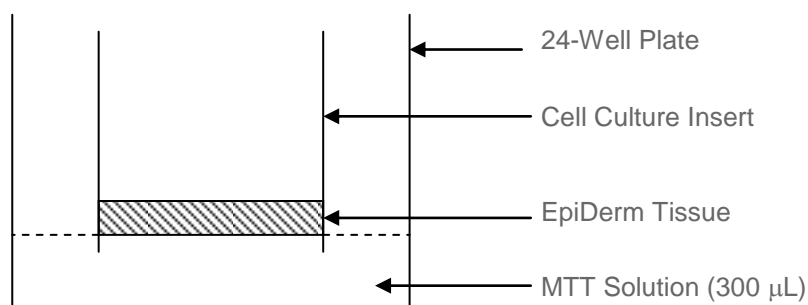

Figure 2: Incubation in MTT solution (37 °C, 95% rH, 3 hrs)
k) **MTT loading:** Return the EpiDerm samples in the 24-well plate to the incubator for 3 hours. See **Figure 2**. *Note:* Deviations from the 3 hour time for MTT incubation will result in different MTT readings thus the 3 hour MTT incubation time should be strictly adhered to.